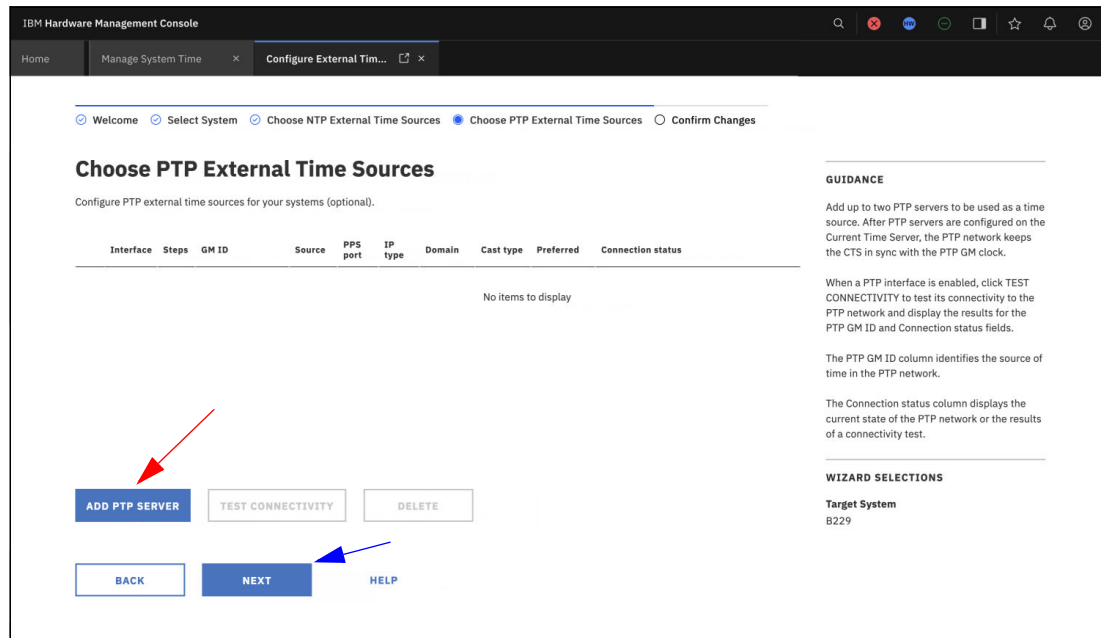

Figure 4-22 Adding PTP sources
9. Add PTP servers to the B229 CPC (Figure 4-22 on page 79).